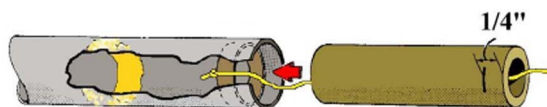

Figure 2
- **Step 3** As shown in Fig. 2, apply a layer of glue up inside the bottom end of the body tube about 2" from the edge. Mark an expended motor casing 1/4" from one end, and use this as a depth gauge tool. With the front face (knot-side face) of the ring inserted into the bottom of the tube, run the thread back through the center of the ring and through the center of the casing. Push the ring upward through the body tube, and through the glue, until the 1/4" mark is just touching the edge of the tube. Immediately remove the casing and allow the glue to dry.